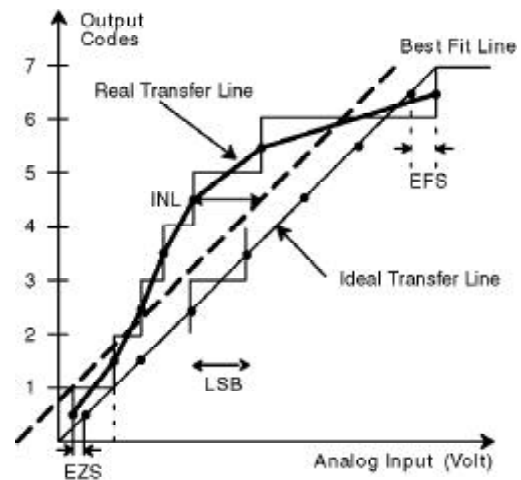
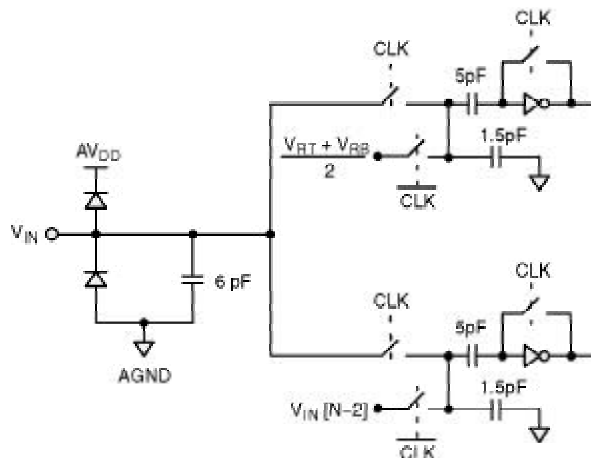

Figure 3. INL Error Calculation
Figure 4. Equivalent Input Circuit
- The difference between the measured and the ideal code width ( $V_{REF}/256$ ) is the DNL error (Figure 3). The INL error is the maximum distance (in LSBs) from the best fit line to any transition voltage (Figure 4). Accuracy is a function of the sampling rate (FS).